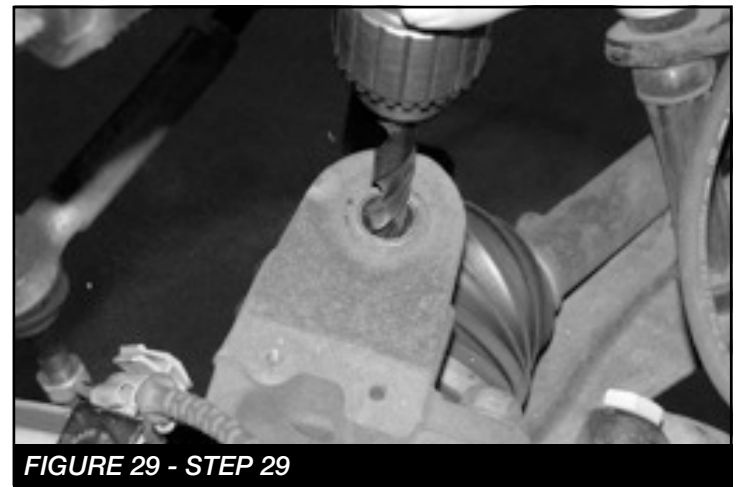

FIGURE 29 - STEP 29
29. Using a 1/2" drill, chase out the end of the upper ball joint taper on the spindle. **SEE FIGURE 29**